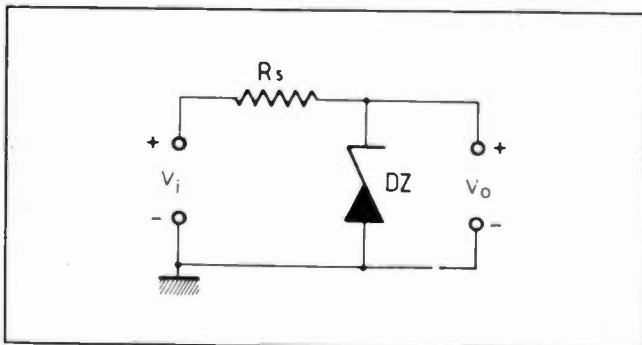
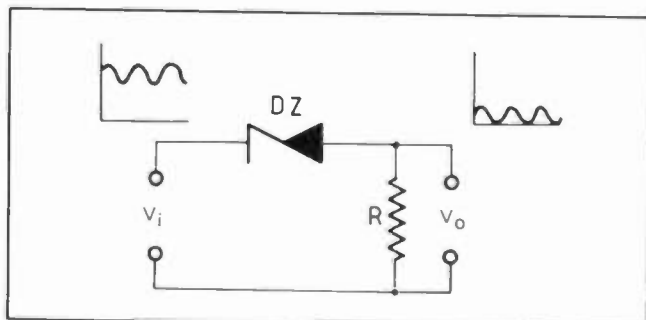

Fig. 34—Zener diode used as a voltage stabilizer.
Fig. 35—This zener circuit exaggerates voltage fluctuations and can be used to provide a convenient error signal.
With a series resistor  $R_s$ , the Zener diode (DZ) forms a voltage stabilizer (Fig. 34). This actually is an attenuator coil. If  $R_s$  is 7,500 ohms, with a differential resistance of 75 ohms for DZ, input voltage fluctuations will be reduced to one one-hundredth of the original amplitude. Permuting  $R_s$  and DZ results in a circuit that exaggerates the input fluctuations and thus yields a fair-amplitude error signal (Fig. 35). The resistor is of low value here in regard to the differential resistance. Thus, a constant voltage drop, preferably only slightly lower than the input voltage, develops across DZ, leaving mainly the fluctuating component across the output. For control purposes, it is necessary only to amplify this component and reinject it into the input.